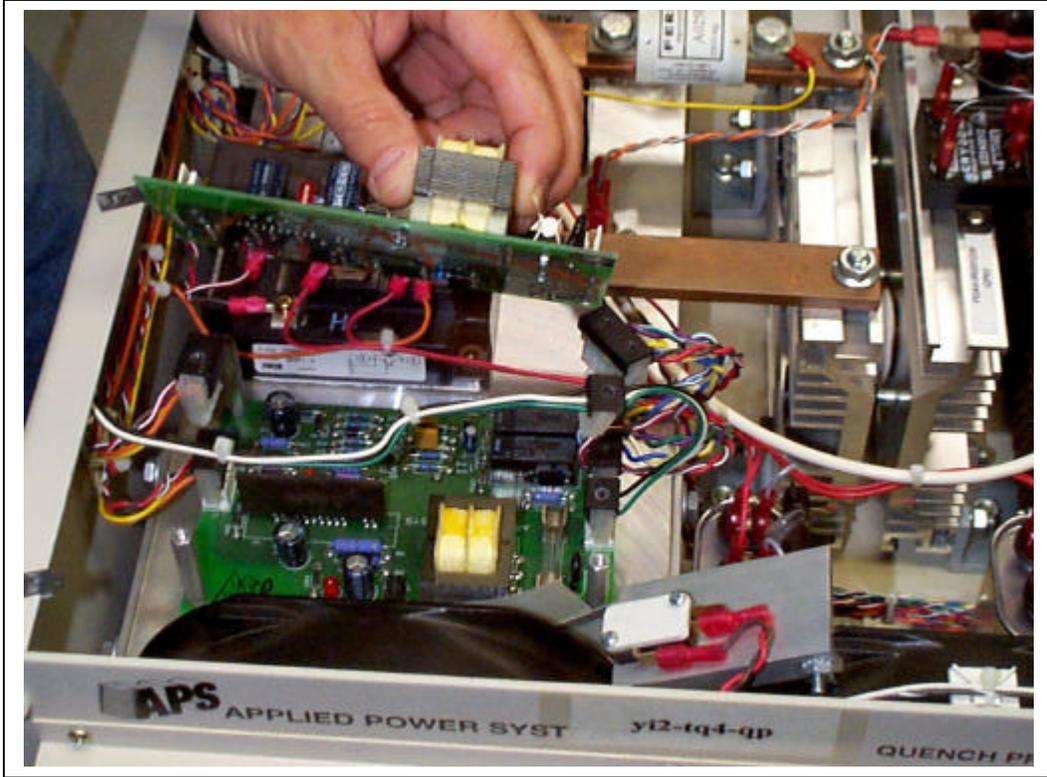

Figure 8
11. Next, you should remove the connectors from the top IGBT card and then unscrew the 4 screws on the 4 corners of the IGBT card. Lift the top IGBT card and it should look like Figure 8. **Make sure you remember where the connectors go on each board!!!**